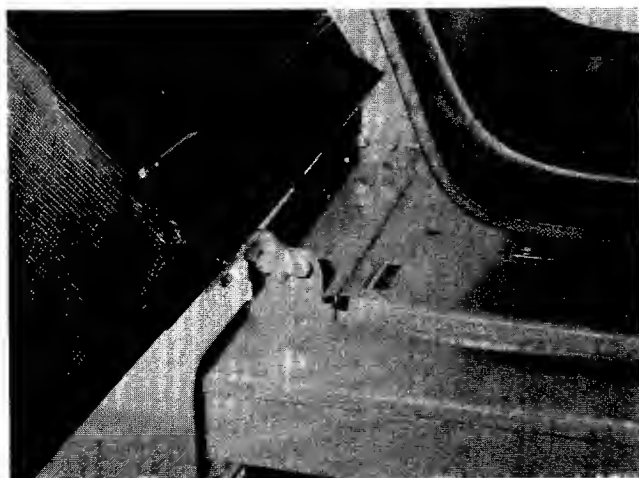

FIGURE 20.
8. Assemble the grass catcher to riding mower. See figure 20.